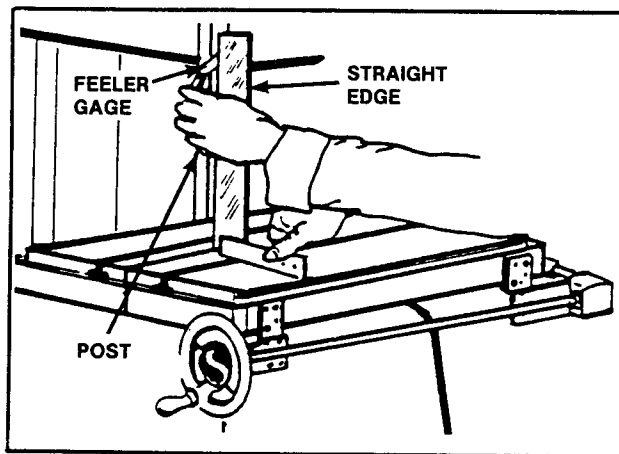

FIG. 7. SQUARING TABLE TO POST.
- (5) Clearance **greater** than 0.004-inch (0.1 mm) should be corrected by shimming under one or more machine base pads.
- (6) Square table to post side by loosening table tilt lock nut and adjusting. Place tilt angle pointer at "zero" on scale, if necessary. Then tighten tilt lock nut. See Fig. 7.